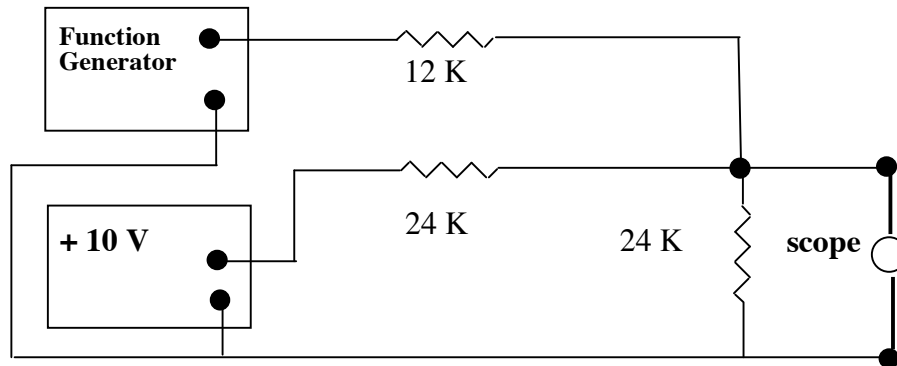

Figure 3: Passive summer.
4. *Passive Summer*: The summer adds the dc voltage from the power supply to offset the ac voltage from the function generator (Figure 3). Suppose that the function generator